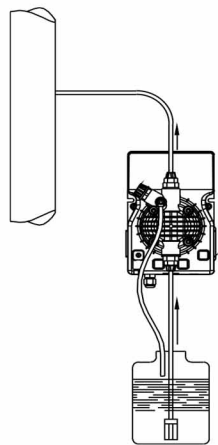
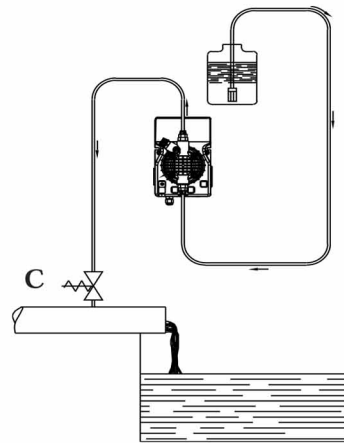

Fig. 5
Fig. 6
- c.- Locate the pump as shown in fig. 5 bearing in mind that it may be installed either below or above the level of the liquid to be dosed, though the level difference should not exceed 2 meters. When the process plant in which the pump is installed is operating at atmospheric pressure (no back pressure) and the chemical tank is situated above the plant (Fig. 6), the condition of the injection valve should be checked at regular intervals, because excessive wear and tear could cause additive to drip into the plant even when the pump is shut down. If the problem persists, install a properly calibrate **counter-pressure valve (C)** between injection point and the valve. In the case of liquids that generate aggressive vapours, do not install the pump above the storage tank unless the latter is hermetically sealed.